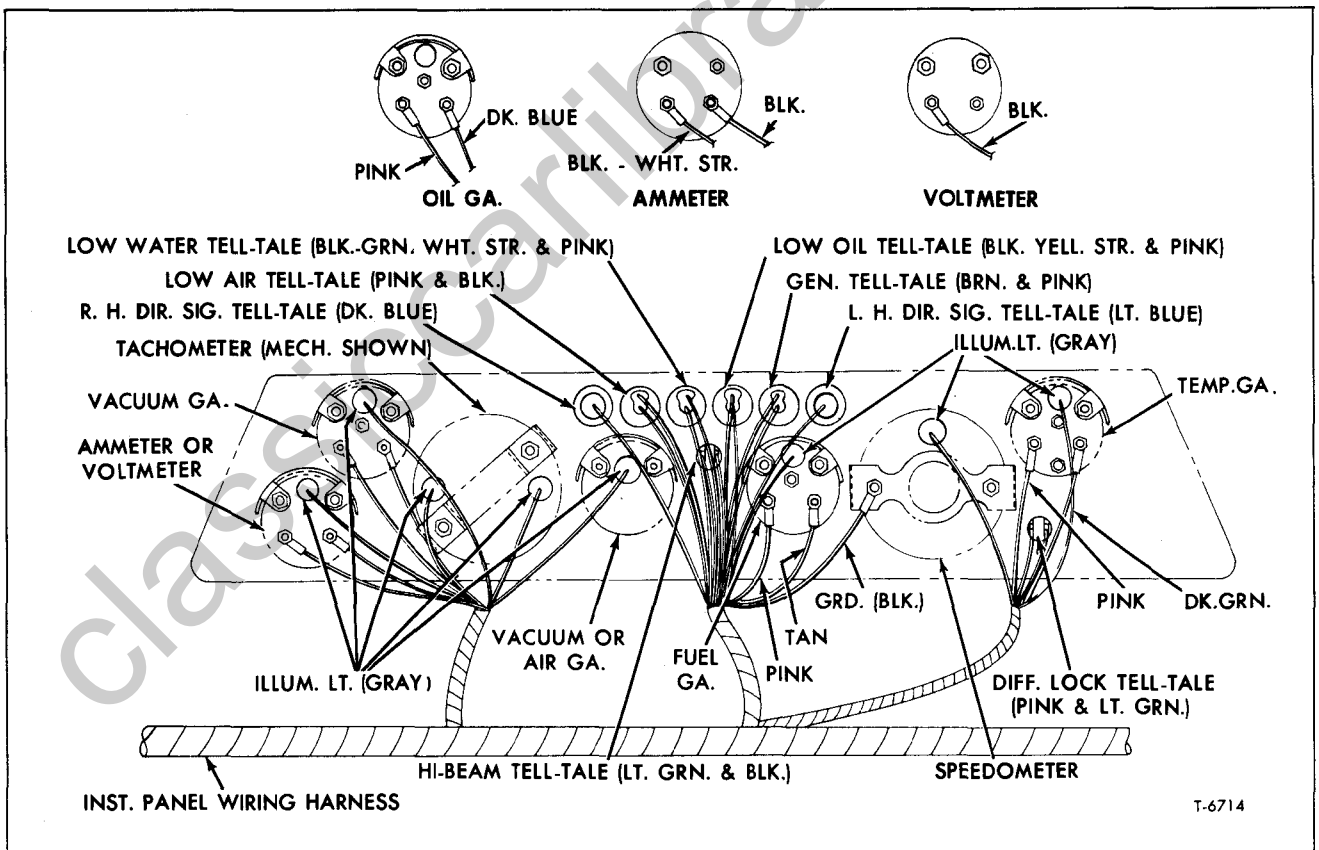

Figure 18—Connections at Rear of Instrument Cluster (Tilt Cab Models—70-80 Series) (Typical)
A typical instrument cluster used on Series 70-80 tilt cab models is shown in figure 18. Each cluster contains gauge and tell-tale lights, gauges, speedometer and tachometer. Lettering on each tell-tale window is visible only when the light behind the tell-tale is illuminated.
1. Disconnect negative battery cable from battery, then disconnect wiring harness connectors from under dash panel. Refer to figure 18 for wiring connections at rear of cluster.
NOTE: Refer to figure 18 for wiring connections at rear of cluster.